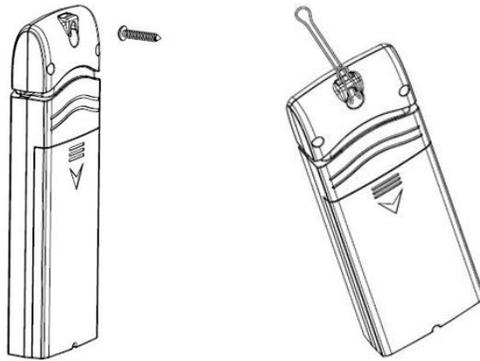

Figure 18: Indoor sensor mounting
- Use a screw or nail to affix the remote sensor to the wall, as shown on the left side of Figure 18, or
- Hang the remote sensor using a string, as shown in right side of Figure 18